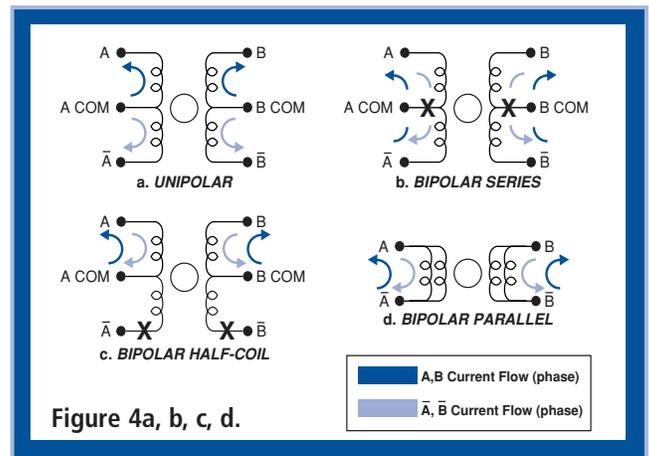

Figure 4a, b, c, d.
*In a unipolar winding configuration*, only half the coils of each winding are used at a time. Energizing half of the coils is beneficial because it reduces the winding's inductance. Inductance is an electrical property that fights changes in current flow, particularly at higher speeds. The unipolar winding configuration tends to give better high-speed performance. The disadvantage of this type of configuration is that at lower speeds it tends to give less torque than configurations that use the entire winding. See Fig. 4a.